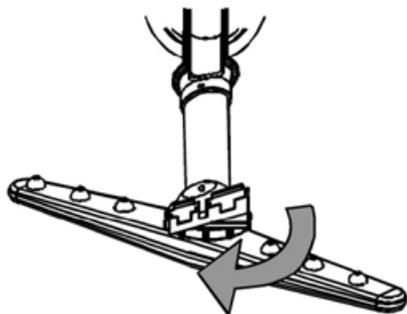
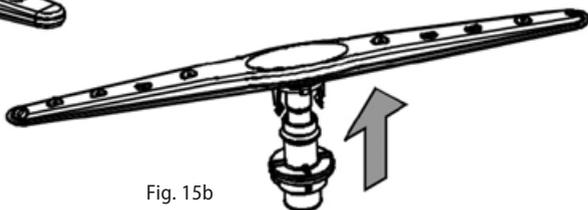

Fig. 15a
Fig. 15b
- If necessary, unscrew and remove the upper arm (Fig. 15a). The lower sprinkling arm, if necessary, may be released and removed by pulling it upwards (Fig. 15b). Rinse the removed arms under running water and reinstall.